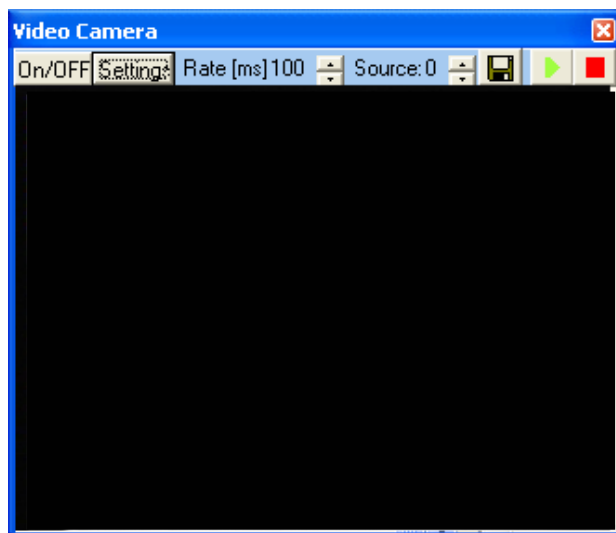

FIGURE E-4 The Video Camera Window of μ Carrier
- a) Start μ Carrier 2.0, select the **View** menu from the tool bar and choose **Show video camera window** to open the video window (FIGURE E-4).